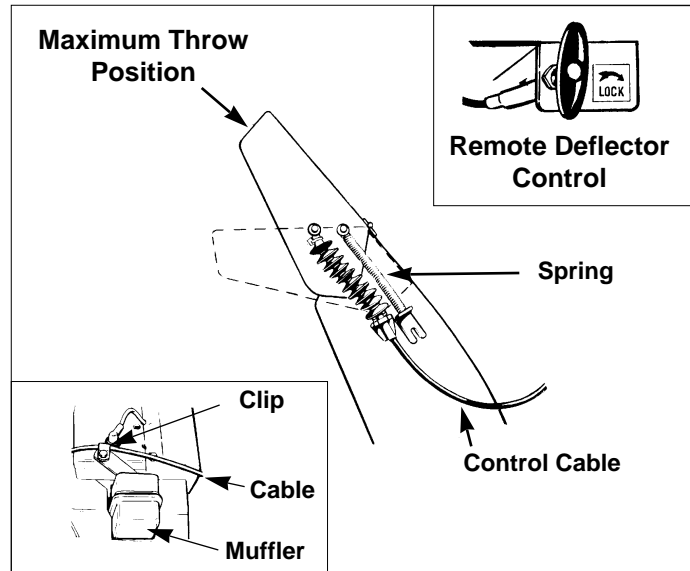

Figure 9. Remote Deflector Control (Some Models)
3. To ENGAGE the traction drive lock, insert the pin through the hub and axle (See Figure 9). If the hole in the hub is not aligned with the inner hole in the axle, push the snowthrower until the holes align and install the Traction Lock Pin.